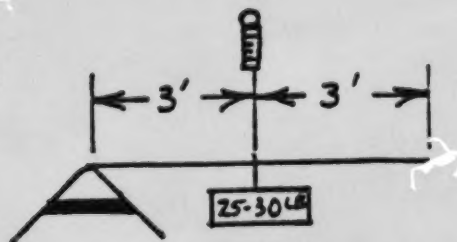

FIG. 3
- D. Place lever so that one end is resting on horse (Fasten the lever so that it can not move upward.) Hang the weight on the other end of the lever, and attach the spring balance to the middle. Lift with scale until weight clears the floor (Figure 3). Record in table. (For this step use a 25 to 30 lb. weight.) Repeat the operation in this step attaching spring balance to points both nearer the weight and nearer the fulcrum.